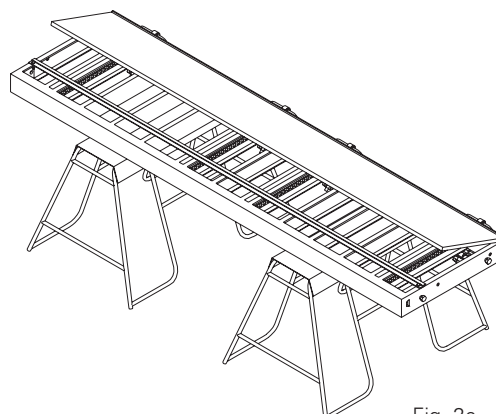

Fig. 2c
3. Mount plywood sheet and insert in the guide. Fig.2c